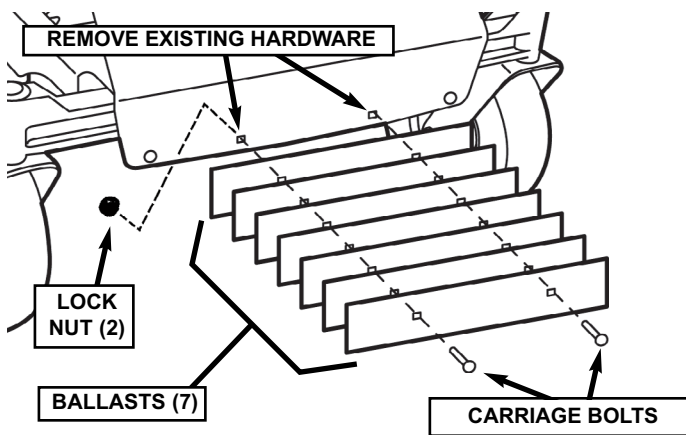

FIGURE 1
STEP 1: Remove the two innermost front carriage bolts securing the unit footrest to the frame. Install the seven ballasts against the front of the machine, securing with the supplied 5/16 x 2-1/2" carriage bolts and lock nuts in place of those removed. Tighten hardware securely. See Figure 1.